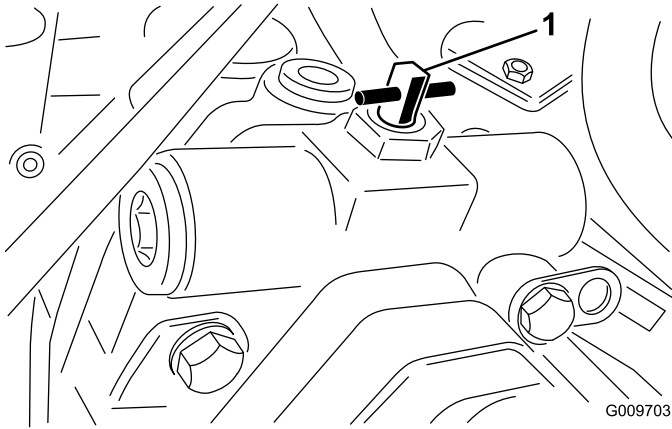

Figure 24
2. Rotate the bypass valve 90° (1/4 turn) in either direction to open and allow oil to bypass internally (Figure 24).